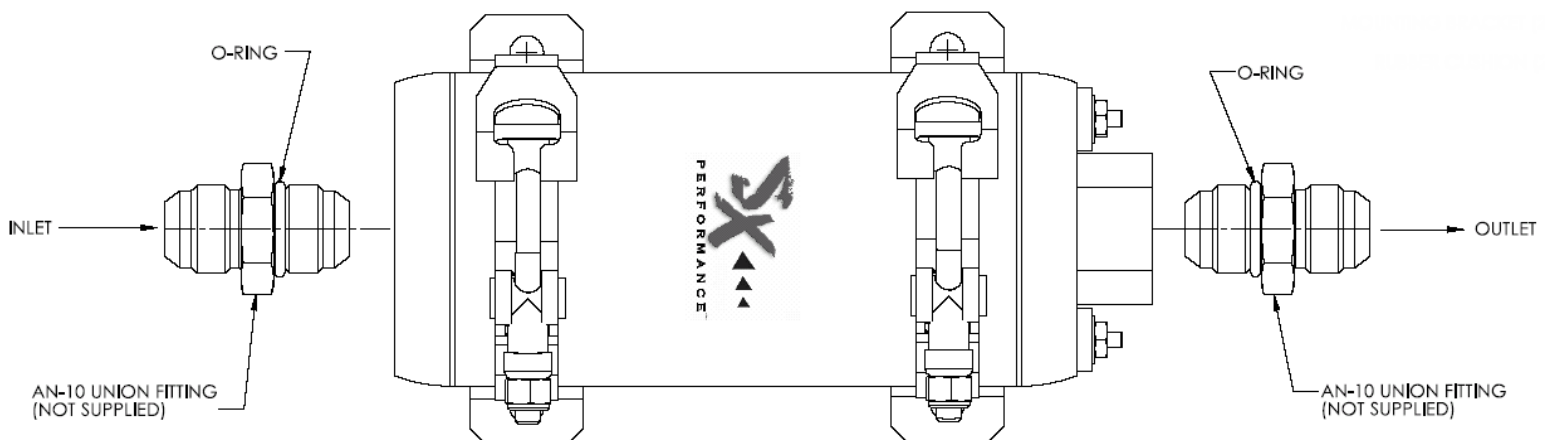

Figure 1 – SX Performance™ Model 18203 Fuel Pump Assembly
3. Mount the new pump in a suitable place on the vehicle chassis using quality mounting hardware (not supplied). Refer to Figure 1 for mounting hole locations. The pump must be mounted on a horizontal level that is even with or below the bottom of the fuel tank and as close to the fuel tank as possible. Ensure all fuel lines from the pump to the carburetor or fuel injection rails are high-pressure grade (200 psi minimum). Replace existing fuel lines as necessary so they line up with the new pump. Fuel lines from pump outlet to fuel rails should be AN-8 minimum.
4. Connect and tighten fittings to the inlet and outlet fuel lines, see Figure 1.